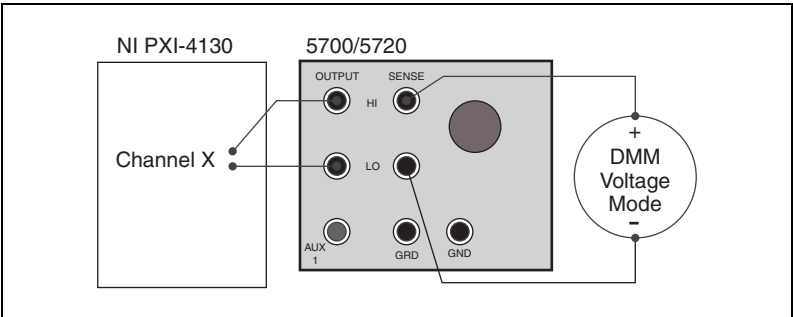
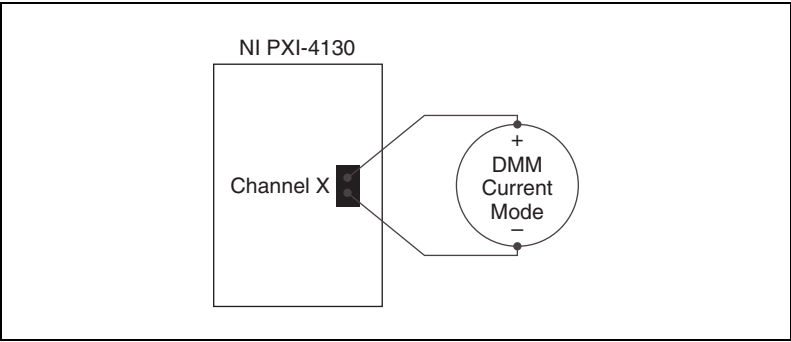

Figure 2. Current Programming Accuracy Verification Setup for the 200 μ A, 2 mA, 20 mA, and 200 mA Current Ranges of Channel 1
Figure 3. Current Programming Accuracy Verification Setup for the 1 A Current Range of Channel 0 and the 2 A Range of Channel 1
- 2. Connect the NI PXI-4130 channel x to the DMM or to the Fluke 5700A/5720A calibrator, as illustrated in Figure 2 or Figure 3. The setup in Figure 2 is used for the 200 μ A, 2 mA, 20 mA, and 200 mA current ranges of channel 1. The setup in Figure 3 is used for the 1 A current range of channel 0 and the 2 A current range of channel 1.